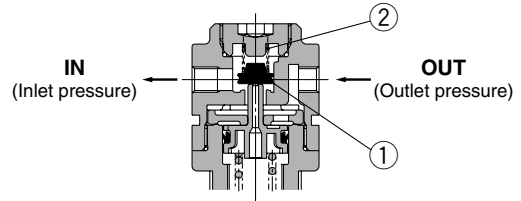

Figure 2
When the inlet pressure is shut off and exhausted, any inlet pressure applied to the valve ① will be lost. The force for seating the valve ① is the valve spring force ② only. When the valve ① is opened using the outlet force, the outlet pressure will be exhausted at the inlet side. (Figure 2)